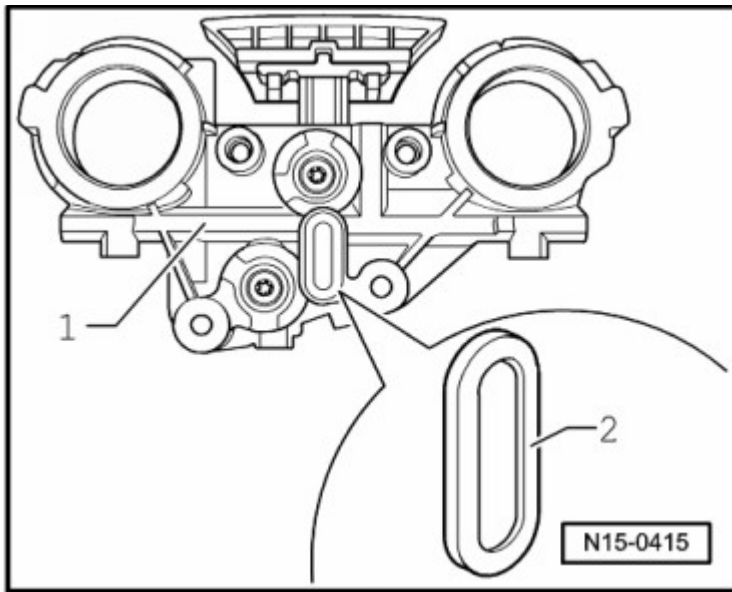

Fig. 7: Identifying Backside Of Control Housing & Screen
- Check the control housing strainer for contamination before installation. Refer to **Fig. 7**.